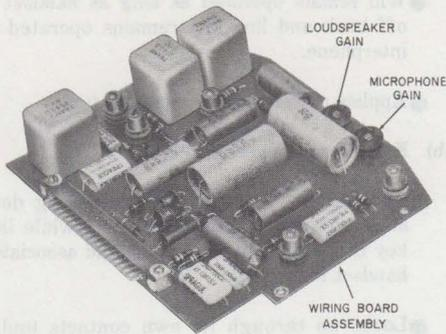

Fig. 4—Amplifier Gain Controls
(2) Turn microphone and loudspeaker gain controls (Fig. 4) fully counterclockwise (minimum gain).
(3) Connect 1013A or 1011B (MD) test set with switch in TALK position to terminals 2R and 2T on the 51A control unit.
(4) Turn loudspeaker gain control clockwise 1/4 turn.
(5) Turn microphone gain control slowly clockwise until feedback occurs in the test set and then counterclockwise until feedback just stops.
(6) Make final check of interphone and door answering feature as follows: